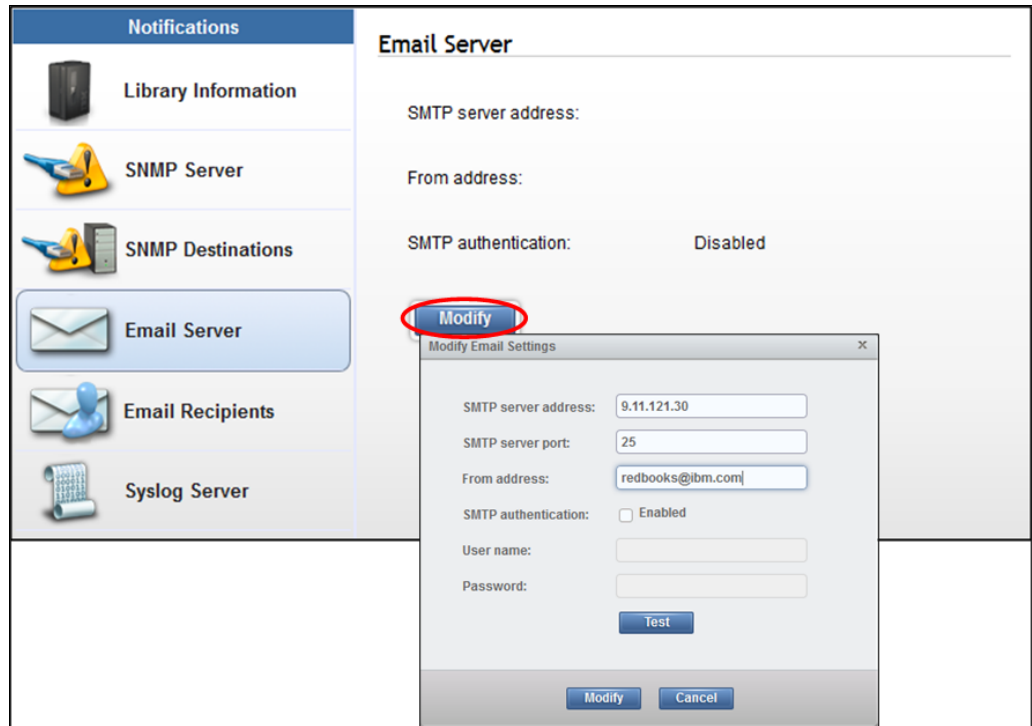

Figure 4-29 Email Server notifications page
2. Enable **SMTP authentication**, as shown in Figure 4-29 on page 206.